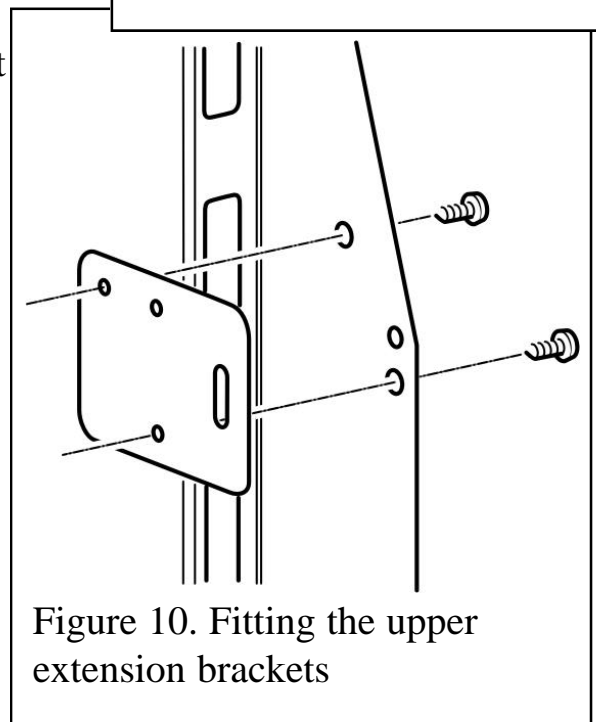

Figure 10. Fitting the upper extension brackets
(See figure 10).
1. Fit the upper extension brackets to the left and right hand sides of the flanges at the rear of the gas fire as in figure 10.